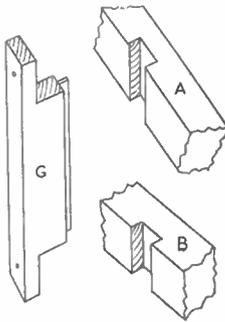

Fig. 5
Fig. 5 illustrates how the glazing bar is engaged into the spars (A) and (B).